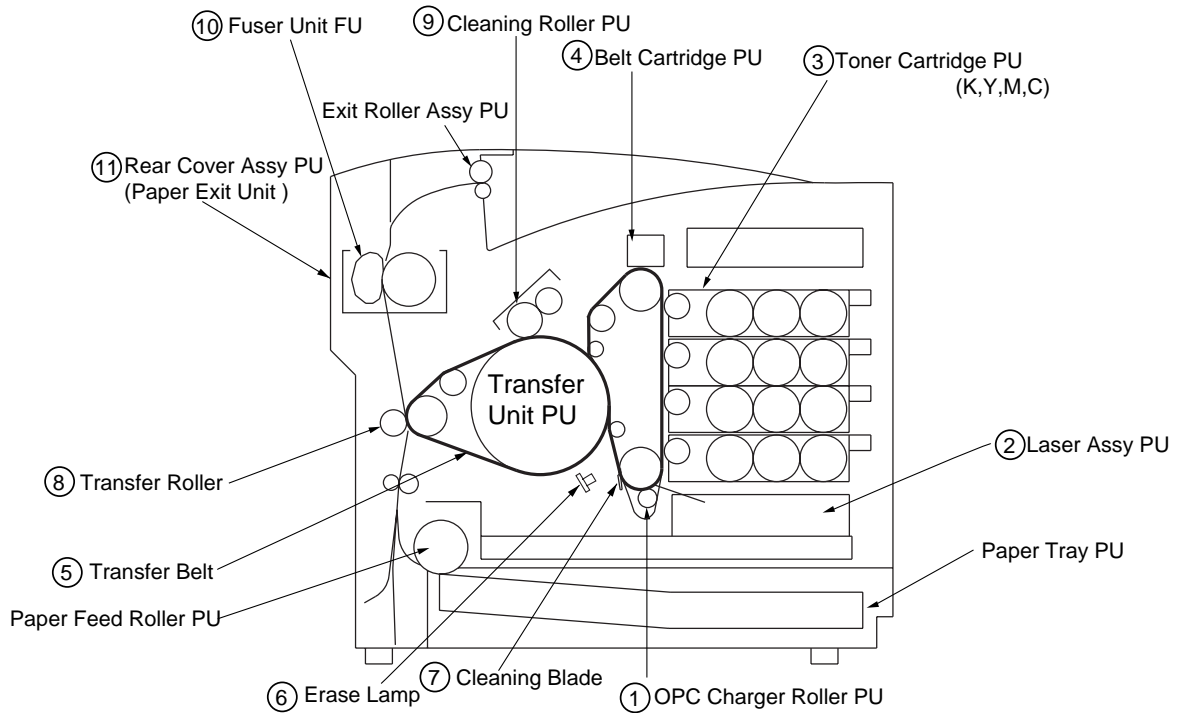
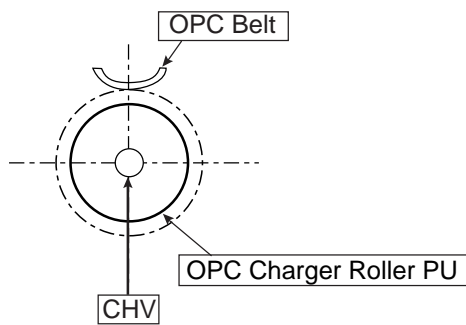

Fig.4-8
Fig.4-11
- (1) Structure of the Charger Unit (Refer to Fig.4-8 and Fig.4-11)
- i) OPC Charger roller PU is located as shown in Fig.4-8.
- (1) Structure of Laser Assy PU
- i) Laser Assy PU is located as shown in Fig.4-8.
- (1) Structure of Toner Cartridge PU (Refer to Fig.4-8 & 4.14.)
- i) Toner cartridge PU is located as shown in Fig.4-8.
- (2) Process of Developing (Refer to Fig.4-8, 4-14, 4-15, and 4-16)
- (1) Structure of the Transfer Belt (Refer to Fig.4-8.)
- i) First transfer part is located as shown in Fig.4-8.
- (1) Structure of Erase Lamp PU
- i) Erase lamp PU is located as shown in Fig.4-8.